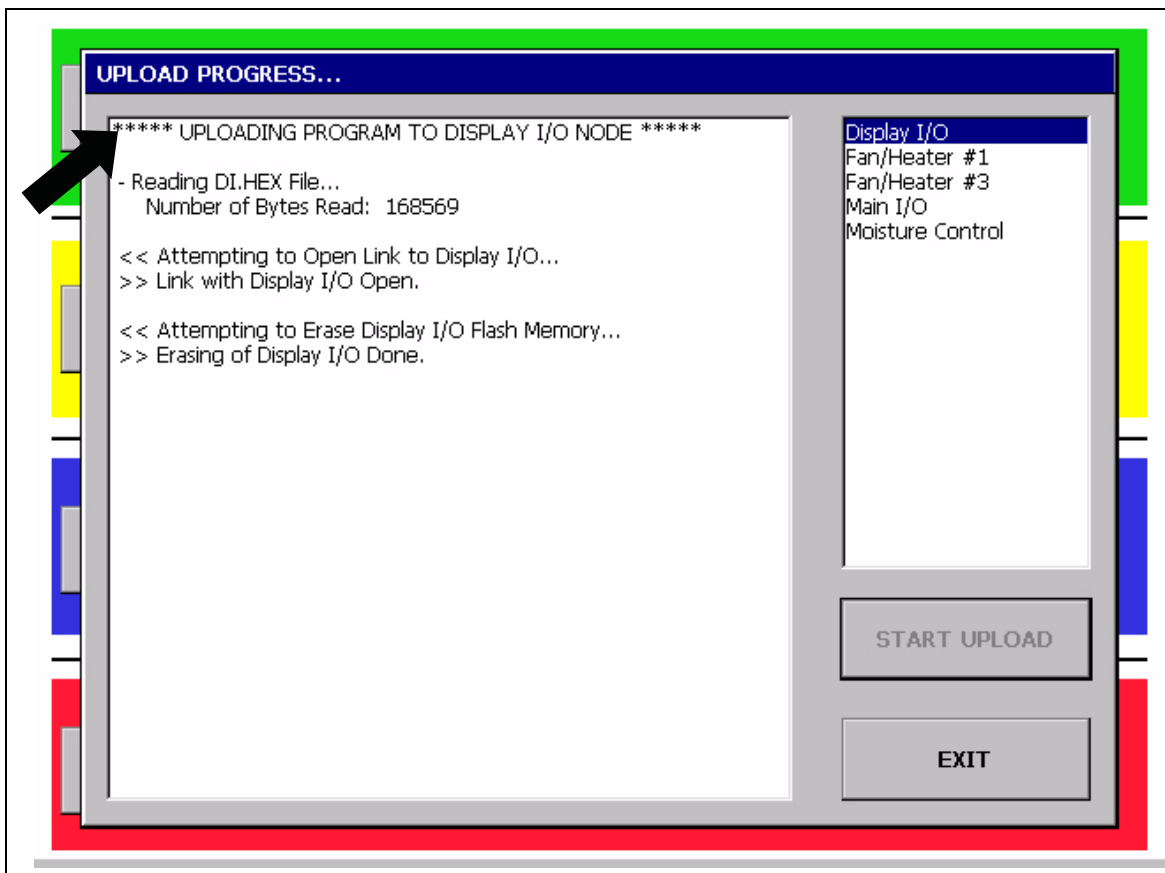

Figure 4H
10. When the “Upload Progress” screen appears, select the “Start Upload” button. *(See Figure 4H.)*
11. The Vision computer will now begin programming each of the network circuit boards on the dryer. The box on the right of the screen lists the network circuit boards detected in the scan. Each circuit board listed will have to be reprogrammed, so this may take a few minutes. File upload progress for the circuit board that is highlighted is displayed in the box on the left. *(See Figure 4H.)*